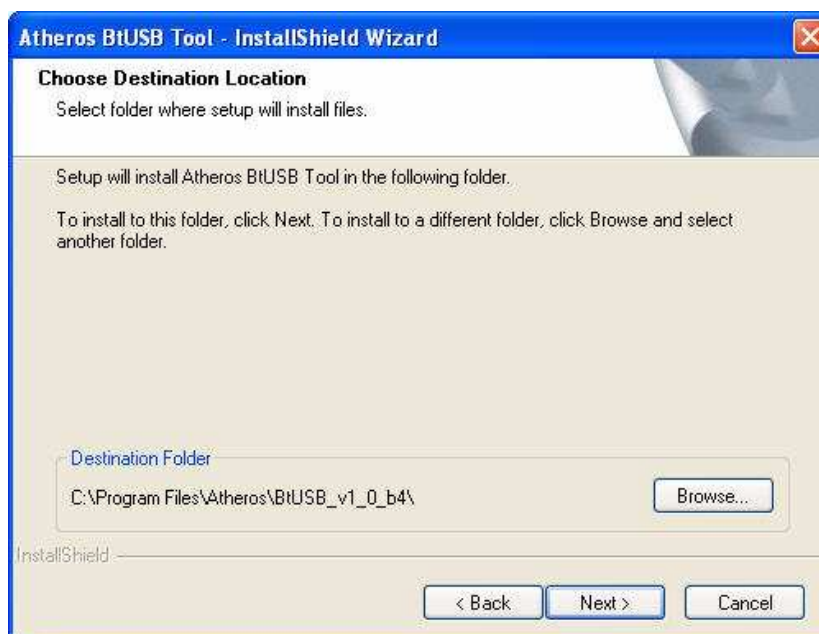

Figure 1-2. BtUSB Tool InstallShieldChoosing Destination Location
7. Click Next which displays the Choose Destination Location screen showing the default location. See Figure 1-2.